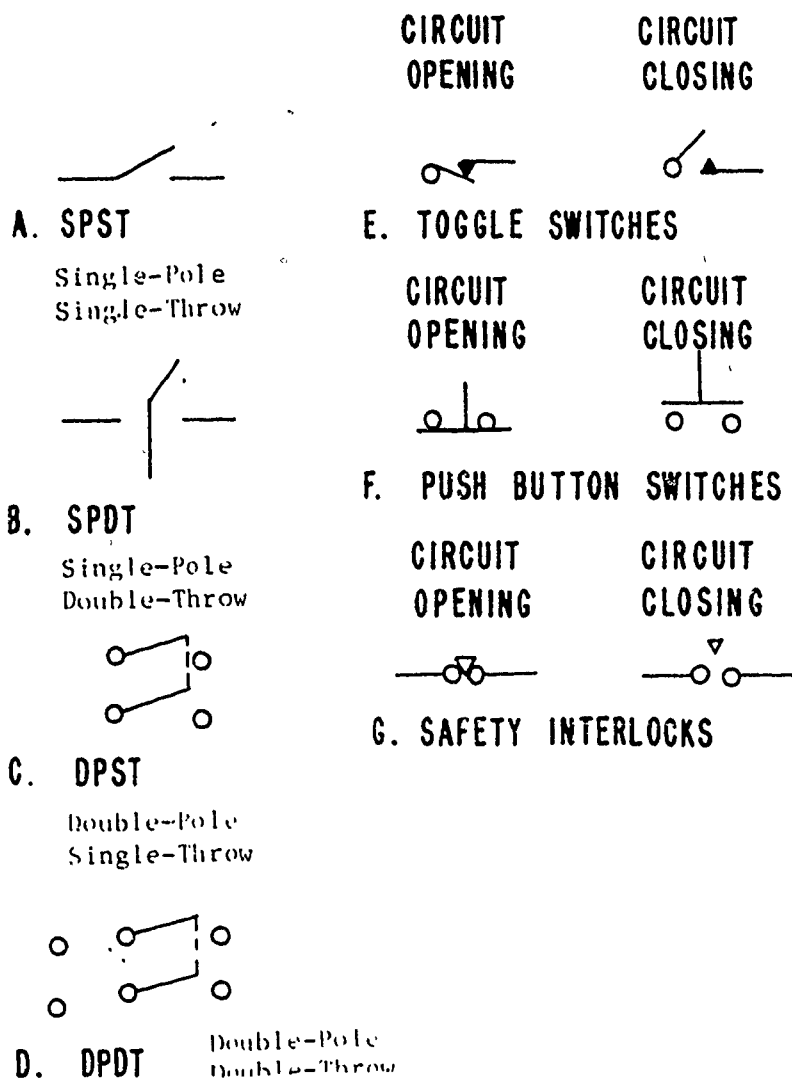

Figure 3-12. Frequently used switch symbols.
Switches are usually classified by two methods: the number of circuits they control, and the type of physical construction. Some of the many switch symbols used in electronics are shown in figure 3-12.
- (1) The single-pole, single-throw (SPST) switch can open or close one circuit. The symbol for the SPST switch is shown in A of figure 3-12.
- (2) The symbol for the single-pole, double-throw (SPDT) switch is shown in B. Two connections can be made separately. Either of two circuits is closed while the other is open.
- (3) A double-pole, single-throw (DPST) switch symbol is shown in C. This switch controls two circuits; both are either open or closed.
- (4) The symbol for a double-pole, double-throw (DPDT) switch is shown in D. With this switch, it is possible to have two circuits closed while two other circuits are open.
- (5) The symbols in E represent toggle switches, those in F represent pushbutton switches, and those in G represent safety interlocks. These switches are shown in their normal positions. Operating the switch causes the action shown in the switch label.